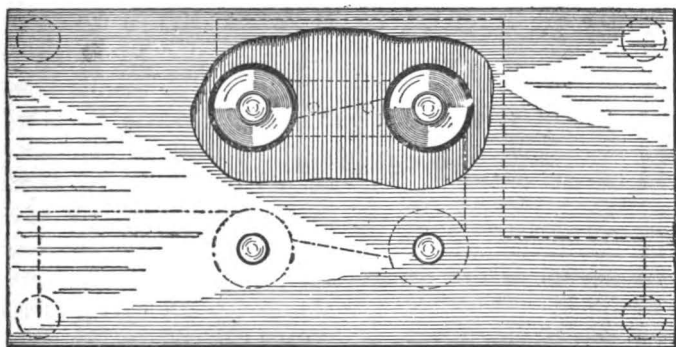

FIG. 80.
**Fig. 80.** This plan also shows clearly the position of the two pairs of magnets, designed to attract the iron bottom of the box on the four corners, each magnet pole taking one-fourth of the pull or strain put on the handle of the box. With this distribution of the magnet poles in relation to the handle of the box, which lies between them, it is impossible for a side strain or twist to concentrate its effect on any single pole, causing the bottom of the box to be disengaged from it.